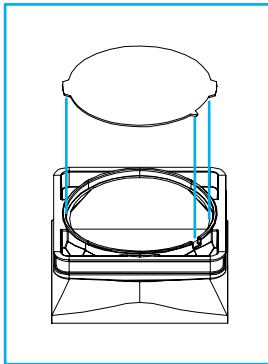

Fig.47
B. To change lens, carefully push the lens up out of the baffle. Insert preferred lens in proper orientation, and carefully press it into place *"Fig.47"*.